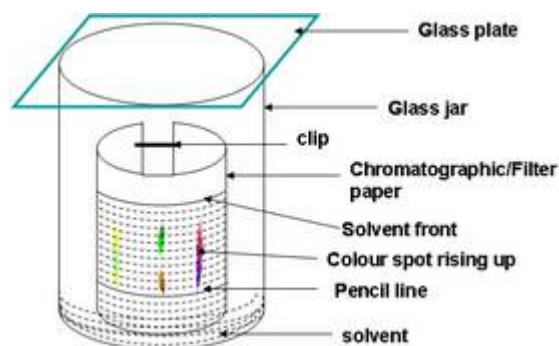

Fig. 4
- Cover the jar and allow the solvent to wick/soak up the paper. Watch what happens to the colour spots (Fig. 4).